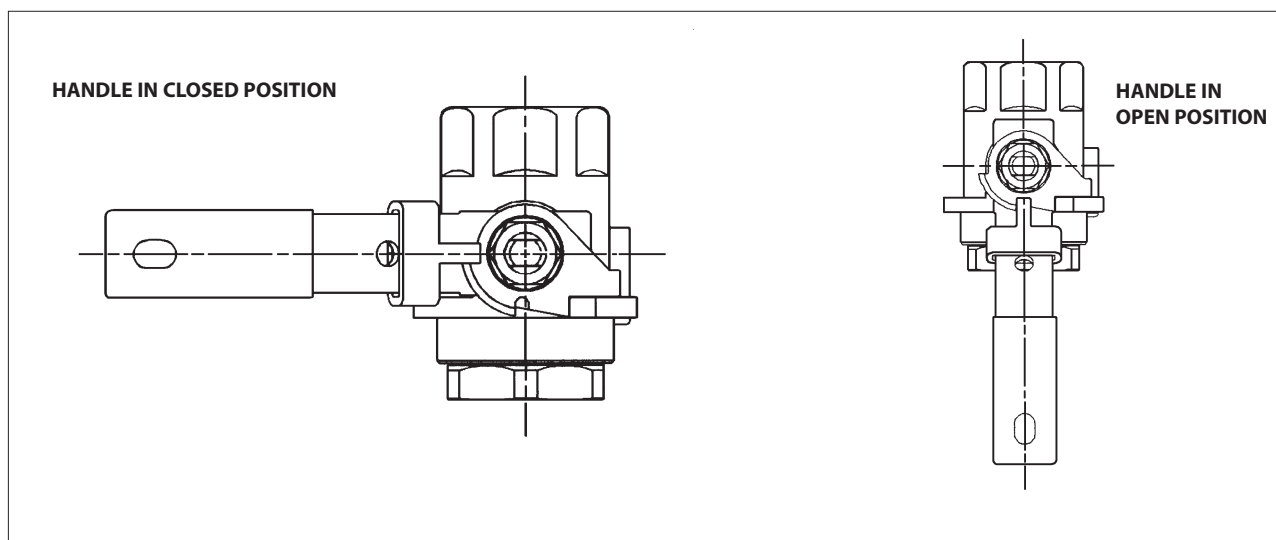

Figure 4.
6. Position the valve in the desired locking position (See **Figure 4**).